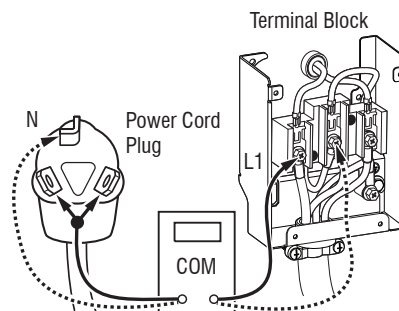

Figure 4a - Plug-to-terminal connections for electric dryer
3. With an ohmmeter, check for continuity between the neutral (N) terminal of the plug and the center contact on the terminal block. See figure 4a.
4. In a similar way, check which terminal of the plug is connected to the left-most contact on the terminal block and make a note of it. This will be L1 (black wire) in the wiring diagram. Follow the same procedure for L2 (red wire). See figure 4a.